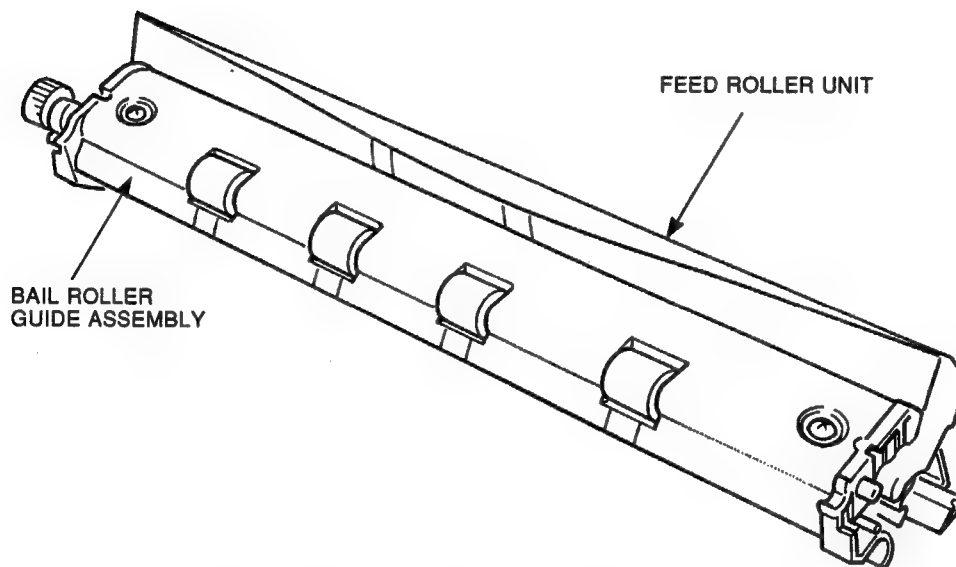

Figure 3-32 Bail Roller Guide Assembly
2. Pull the both ends of the bail roller guide outward and remove it from the feed roller unit (see Figure 3-32).